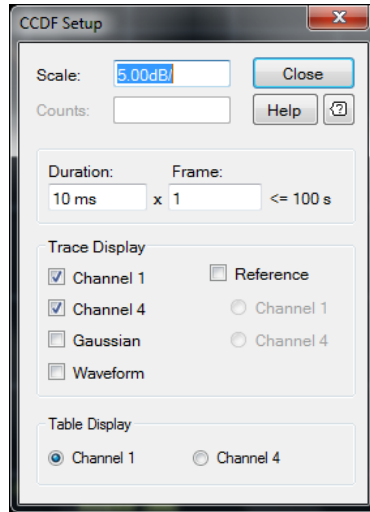

Figure 2-89 CCDF Setup dialog
- 8 The CCDF Setup dialog is displayed as shown in Figure 2-89.